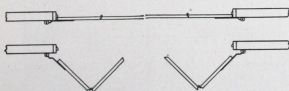

Fig. A-521-A—Floor plans of four-door "Slidetite" No. 1035 doorway showing. (1) doors closed, (2) doors partially opened.
Fig. A-521-B—Floor plans of four-door "Slidetite" No. 1035 doorway showing. (1) doors open parallel with side walls, (2) doors open parallel with front wall, giving absolute clearance from jamb to jamb.